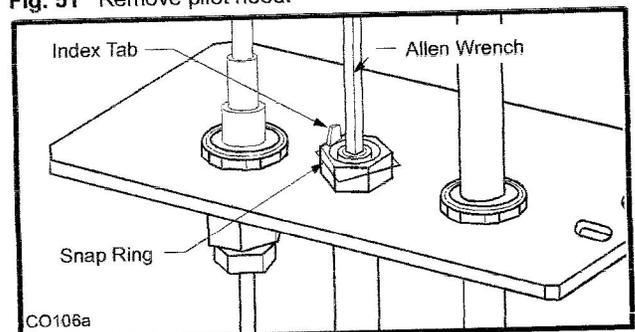

Fig. 52 Remove pilot orifice.
- Remove pilot orifice with allen wrench. (Fig. 52)